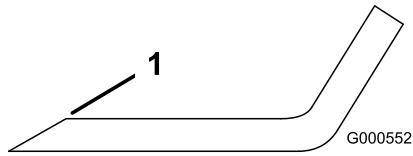
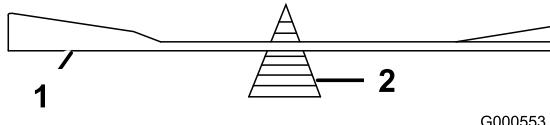

Figure 45
Figure 46
2. Check the balance of the blade by putting it on a blade balancer (Figure 46). If the blade stays in a horizontal position, the blade is balanced and can be used. If the blade is not balanced, file some metal off the end of the sail area only (Figure 45). Repeat this procedure until the blade is balanced.